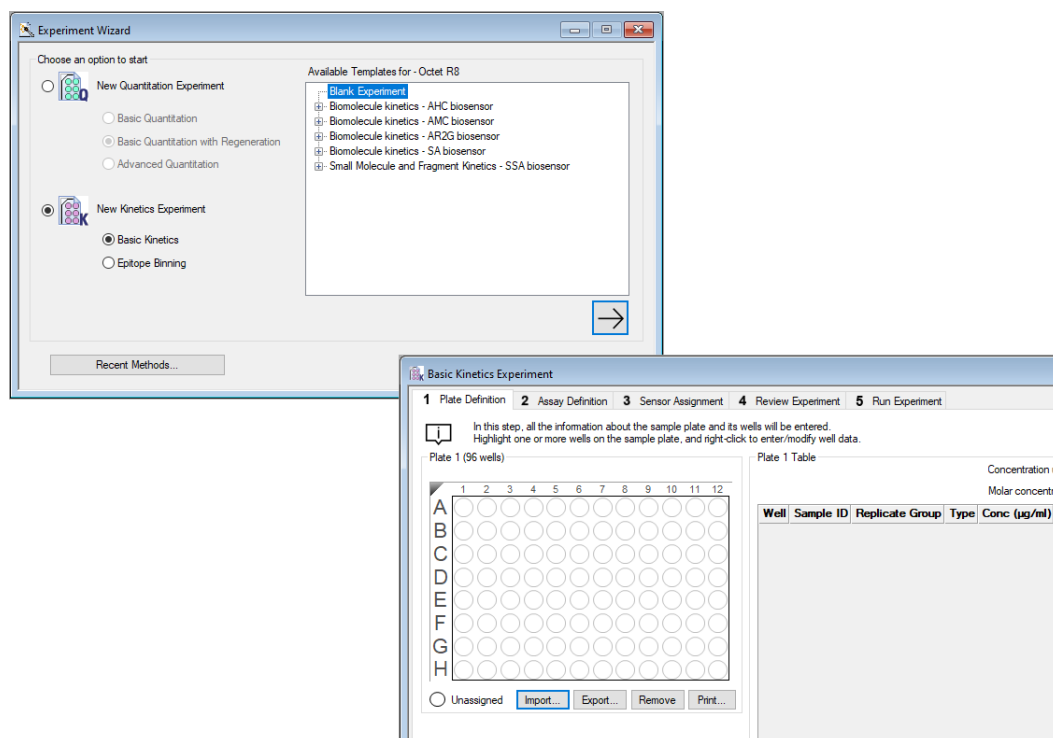

Figure 8-1: Starting a Kinetics Experiment with the Experiment Wizard
2. In the **Experiment Wizard**, click **New Kinetics Experiment** (Figure 8-1, left).
4. Click the arrow button () . The Basic Kinetics Experiment window appears (Figure 8-1, right).